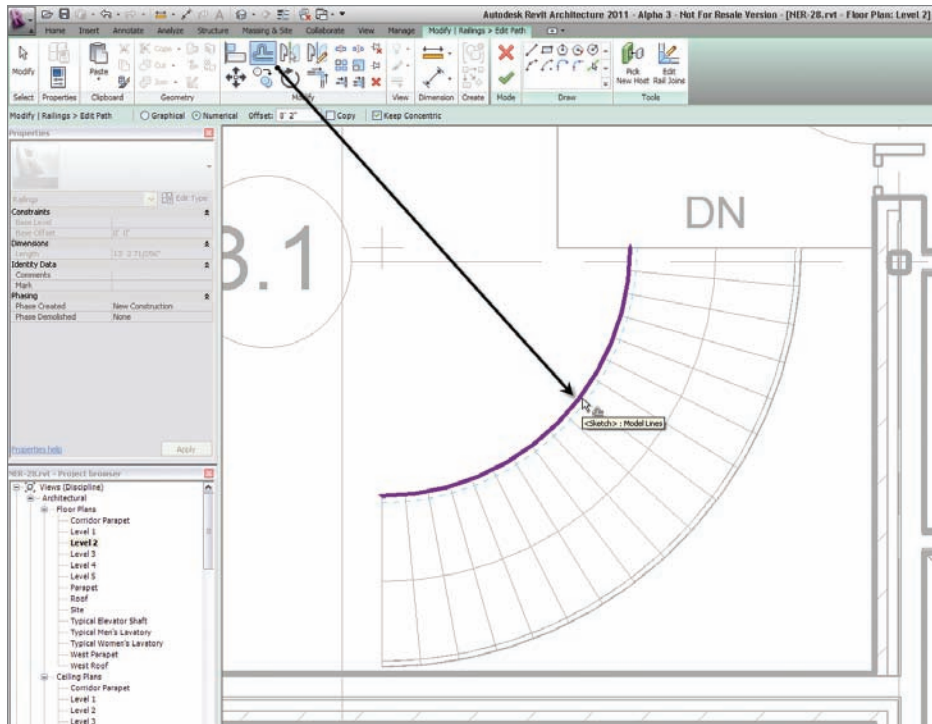

FIGURE 10.48 Offsetting the railing in 2"
2. Select the top railing, as shown in Figure 10.48.
4. Click the Offset button on the Modify panel, as shown in Figure 10.48.
7. Offset the railing into the stairs 2", as shown in Figure 10.48.